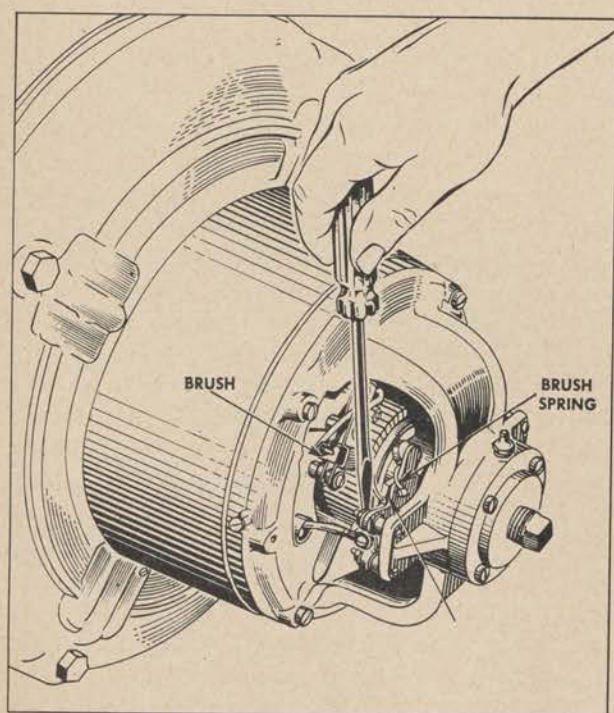

Figure 288. Replacing generator collector ring brushes.
d. REPLACING GENERATOR COLLECTOR RING BRUSHES. Remove the commutator end bell cover. There are four collector ring brushes, two on each side of the ring. With a screw driver, disconnect the brush pigtail from the brush holder. (See fig. 288.) Raise the spring off the brush and withdraw old brush. Clean the collector ring assembly of carbon and install new brushes. Then replace